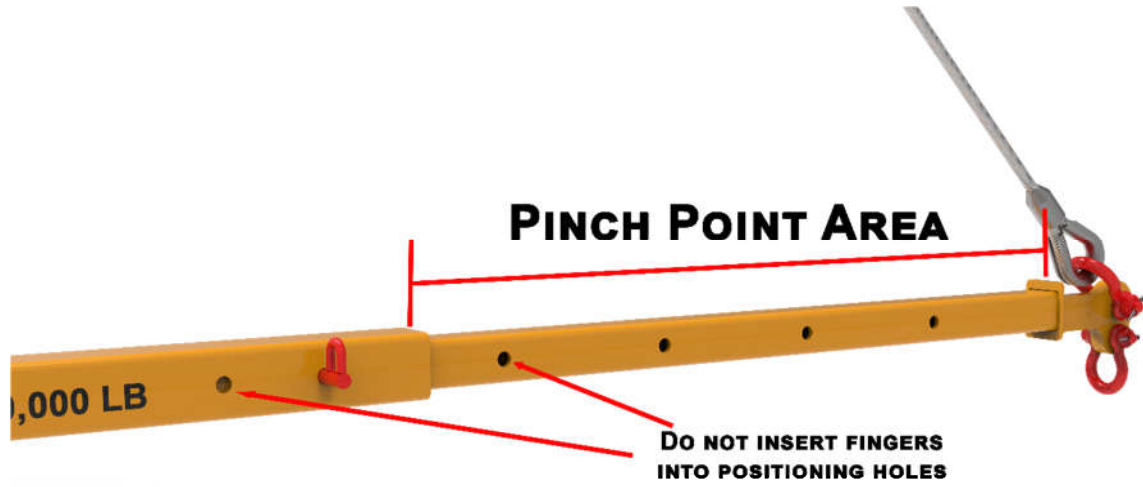

Figure 1
- At no time should the operator’s hands or feet be placed in the alignment holes or near the location of the outer tube/inner tube Pad Eye pinch point. **See Figure 1.**